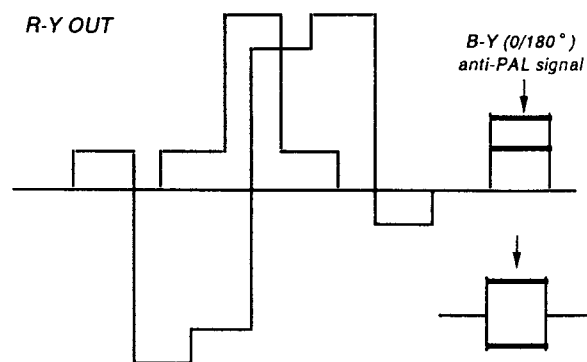

Fig. 15
- 4) Adjust **[PHASE PAL NOR]** so that the B-Y anti-PAL signal waveform is 0. (Fig. 15)